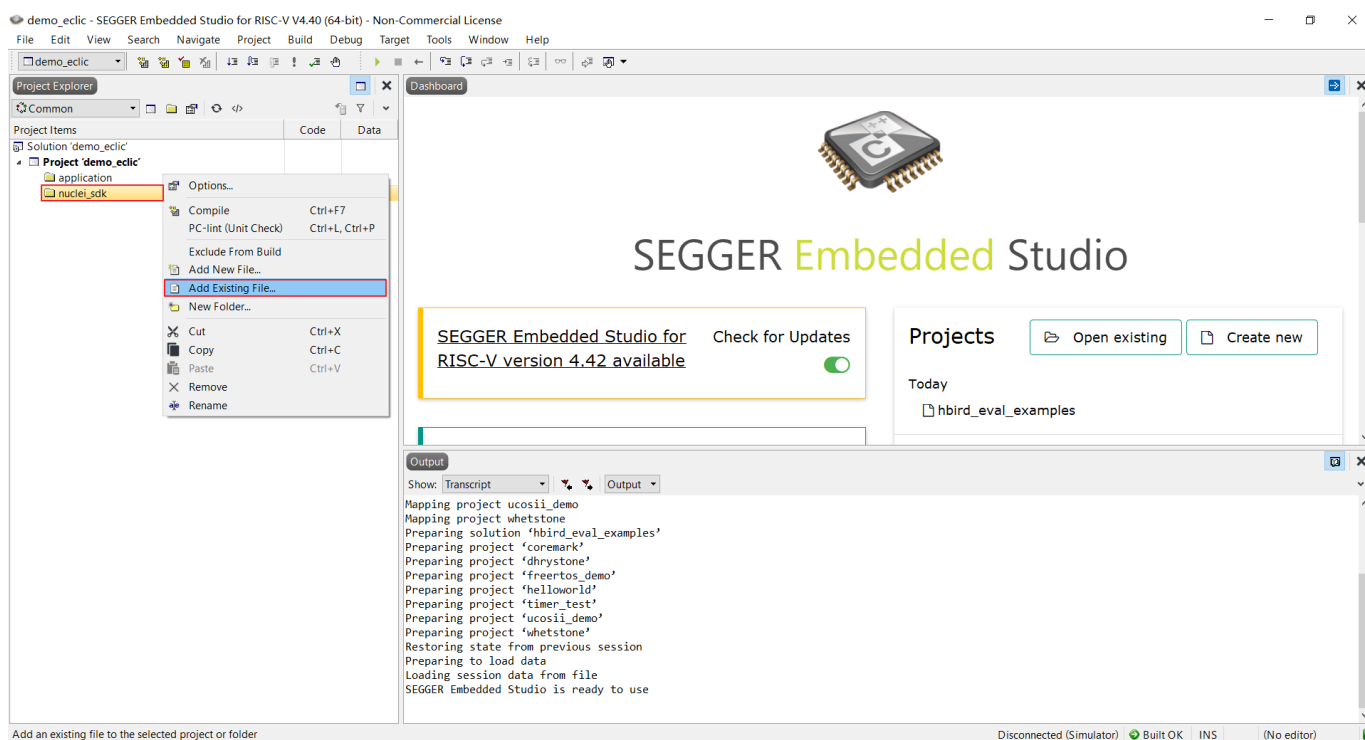

Figure 2-11 Add File to the Project
- Right click the newly created folder and select “Add Existing File” to add files to the project, as shown in Figure 2-11.